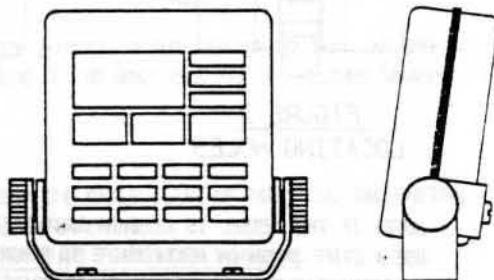

FIGURE 2
6. LOCATE THE INSTRUMENT WITH THE BRACKET ATTACHED WITHIN THE STATIONARY BRACKET AND SECURE INTO PLACE WITH THE THUMB SCREWS PROVIDED (SEE FIGURE 2). ADJUST FOR PROPER VIEWING AND TIGHTEN INTO PLACE (DO NOT OVERTIGHTEN).